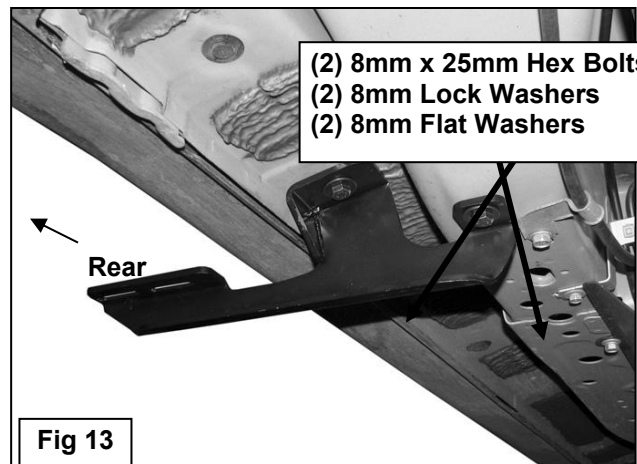

Fig 13
9. Attach the driver side Rear Bracket to the (2) threaded holes with (2) 8mm x 25mm Hex Bolts, (2) 8mm Lock Washers and (2) 8mm Flat Washers, **(Figures 13)**. Do not tighten hardware at this time.